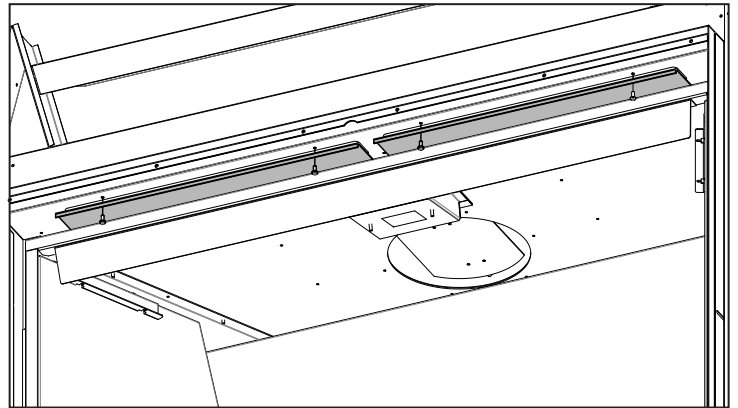

Figure 39: CSS Cover Plates
- Step 4.** Remove the two cover plates on the ceiling of the unit. These are secured by four (4) T-20 screws. See Figure 39.